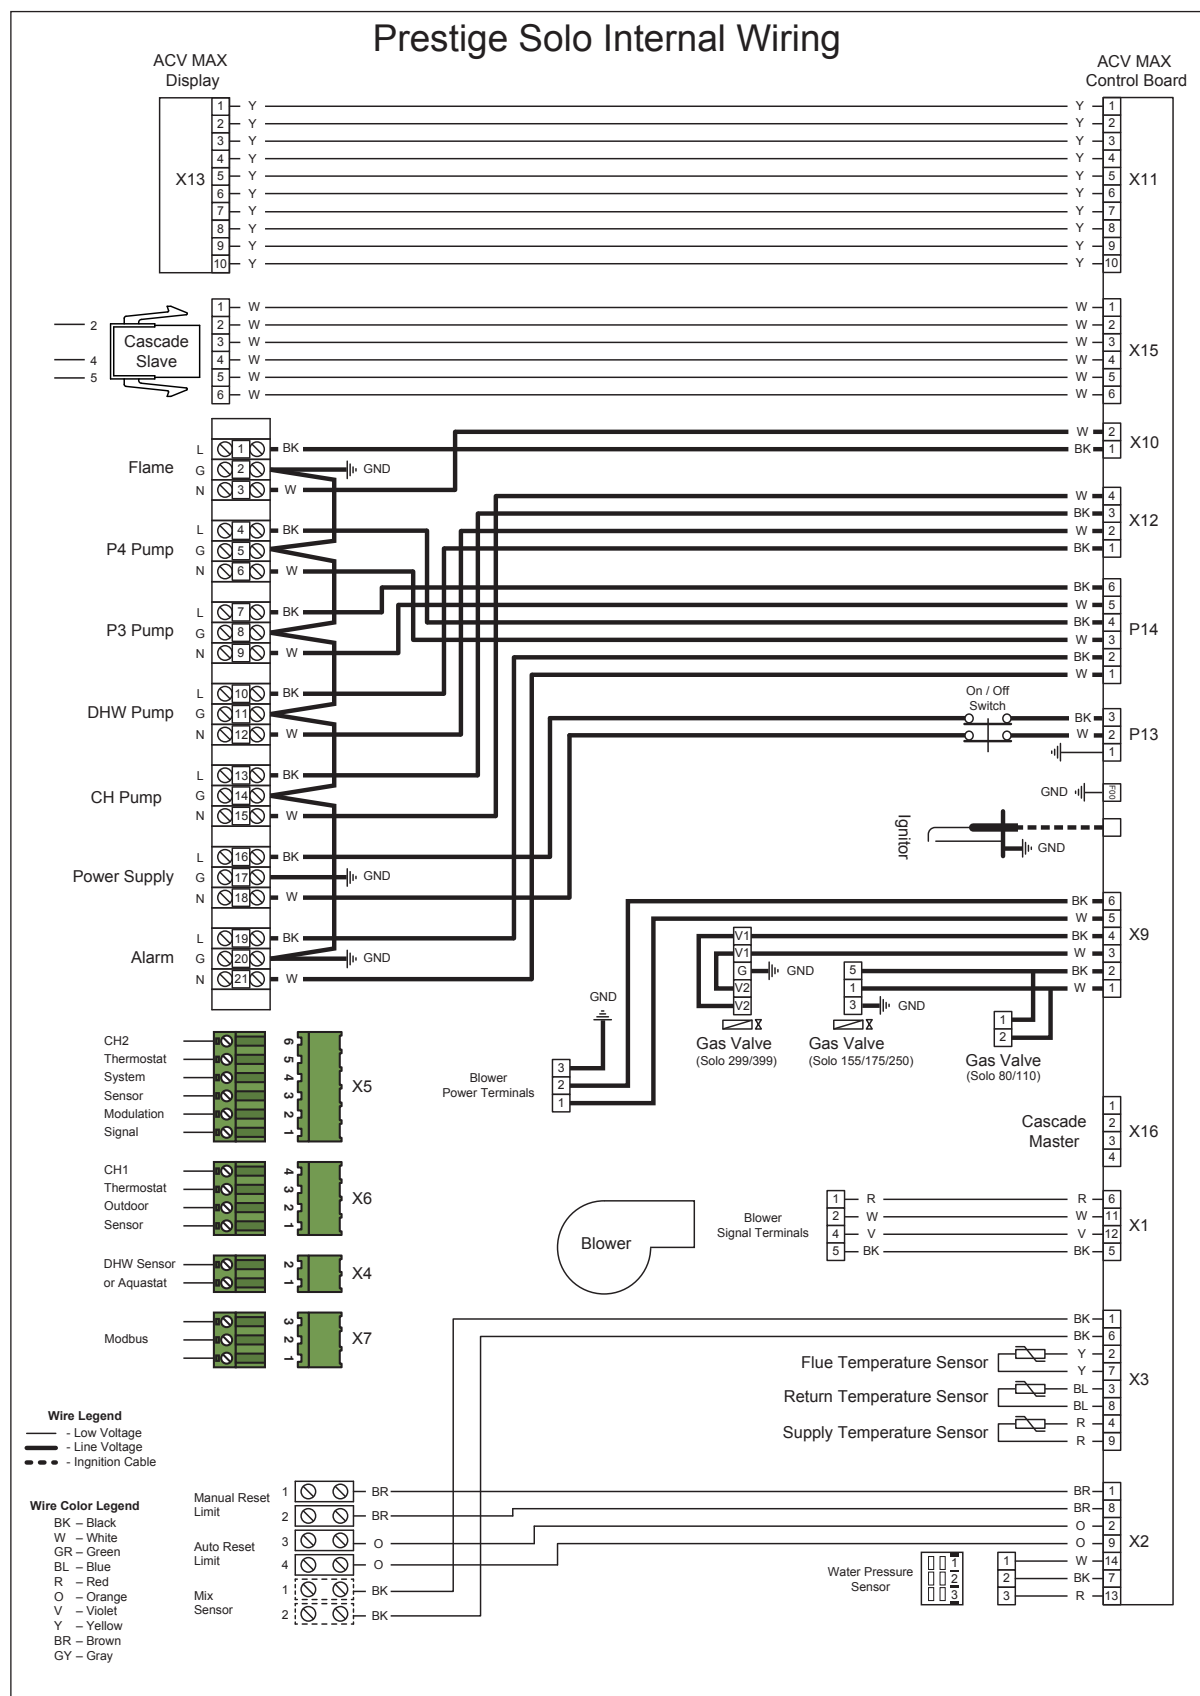

Fig. 21 - Prestige Solo Boiler Factory Wiring
The low voltage terminals are located at the bottom of the ACVMax control module. The line voltage terminals are located in the lower right corner as shown in Fig. 21 below.
1. Connect a dedicated 120 VAC/15A service to the line voltage terminals located internally in the lower right corner, as shown in *Fig. 21 below*.
2. Connect the CH circulator wiring to the line voltage terminals located internally in the lower right corner, as shown in *Fig. 21 on the left*. This circulator is typically used to supply heat to the central/space heating loop.
3. Connect the DHW circulator wiring to the line voltage terminals located internally in the lower right corner, as shown in *Fig. 21 on the left*. This circulator is typically used to supply heat to an indirect hot water heater.
4. Connect the P3 circulator wiring to the line voltage terminals located internally in the lower right corner, as shown in *Fig. 21 on the left*. This circulator is typically used to circulate water through the PRESTIGE Solo in primary/secondary piped systems.
5. Connect the P4 circulator wiring to the line voltage terminals located internally in the lower right corner, as shown in *Fig. 21 on the left*. This circulator is typically used as a dedicated circulator to a second space heating zone.